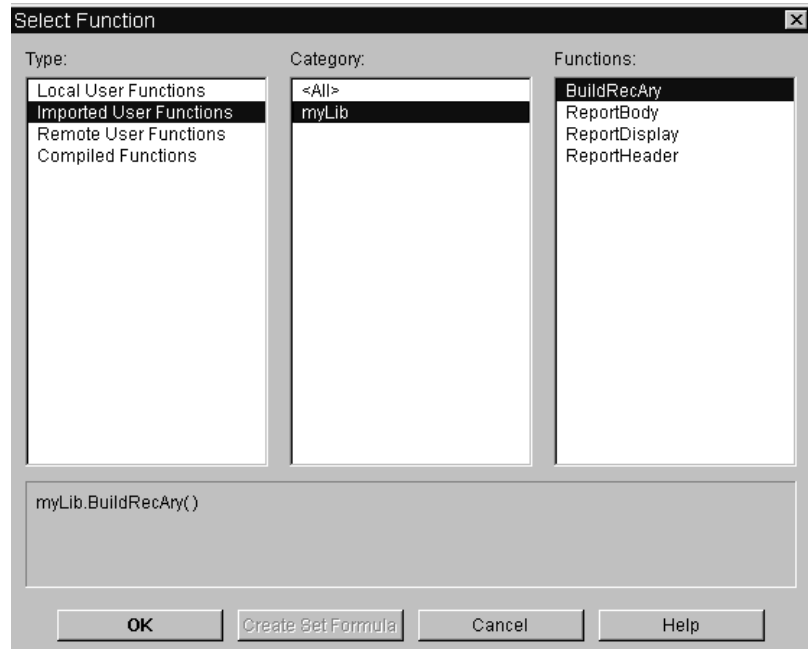

Figure 198 Selecting a Function from an Imported Library
- 5 Open the Call Function object menu and click Select Function to show a list of the functions imported with the Load Lib command. Select **myLib.BuildRecAry** as shown in Figure 198.